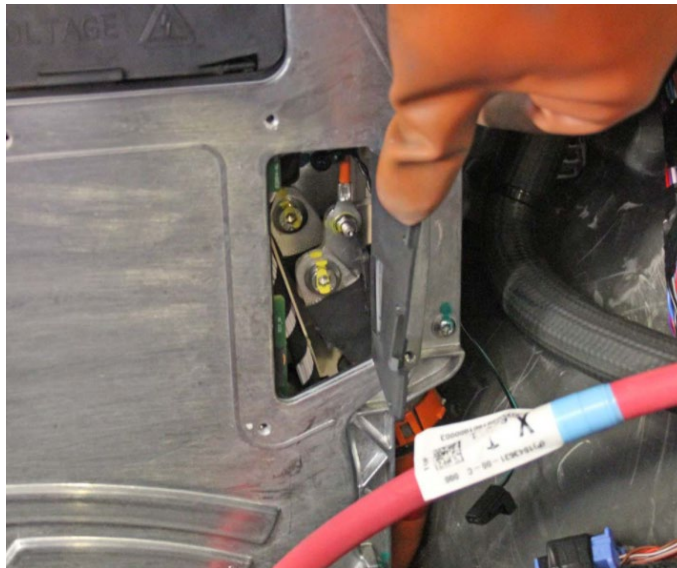

Figure 4
7. Gently peel back the rubber cover to expose the High Voltage fasteners that secure the High Voltage cables to the High Voltage battery (Figure 4).